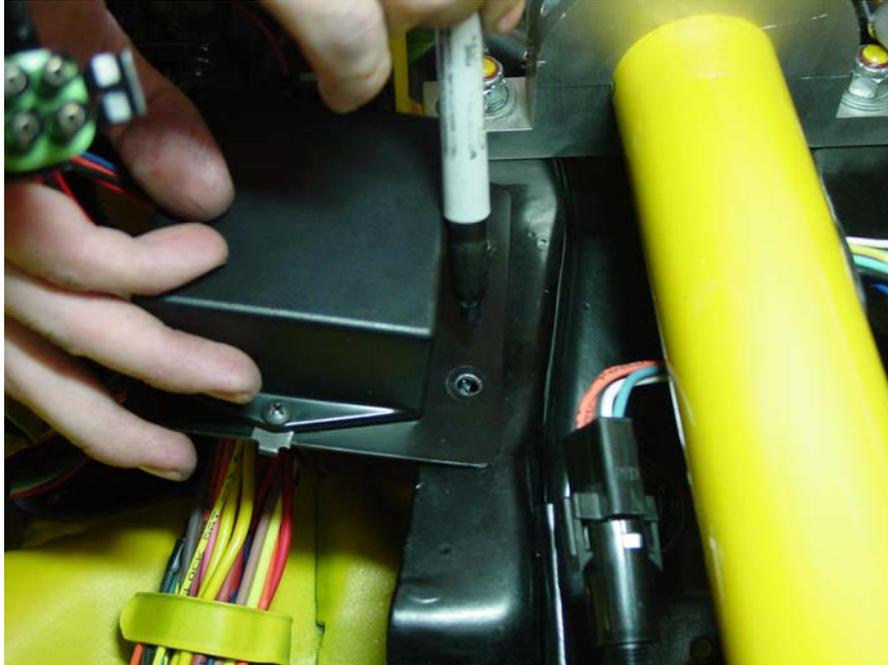

Figure 2 - Locating the Bolt Holes
1. Locate the brake pedal support bracket under the driver's side dash spanning from the brake pedal assembly to the steering column support attachment. Mock up the module and mounting plate. Locate the bolt holes on the support bracket with a marker or scribe as shown in Figure 2 on the next page.